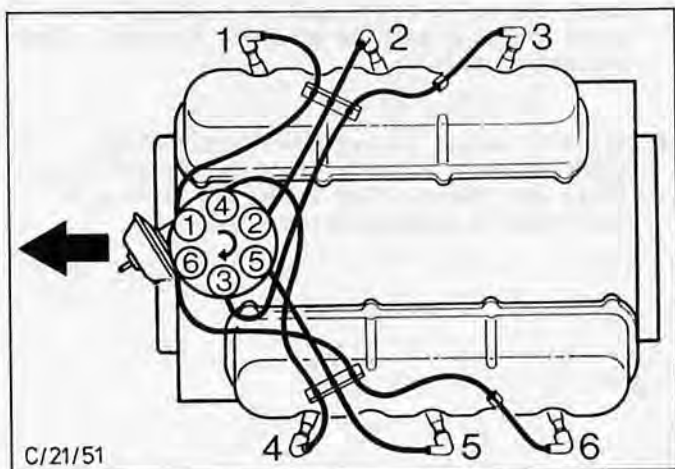

Fig.96. Arrangement of HT leads (firing order).
5. Fit rocker covers using new gaskets and bolt down securely. Reconnect spark plugs, Fig.96 and fit air cleaner with vacuum and hot air hoses.